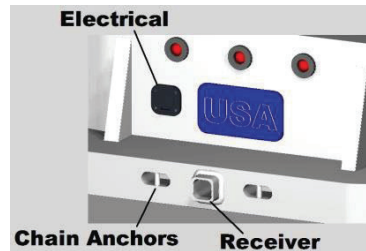

Figure 11
Check that the light wire connection is plugged into the truck body light socket (See Figure 11) and that all the trailer lights are in working condition before departing.
10. Connect the trailer wiring cable to the truck bed's plug socket located at the rear of the truck bed (See Figure 11).